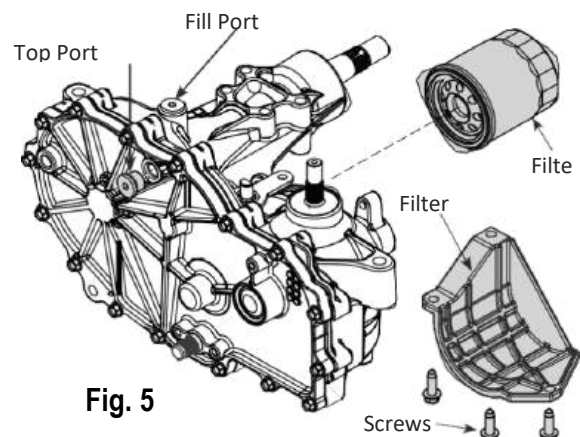

Fig. 5
8. Remove the top port plug (figure 5) from the left side and right side transaxles prior to filling with oil. This will allow the transaxles to vent during oil fill.
Note: For units that do not have an external expansion tank remove the fill port plug on the top of the housing (figure 5).
10. Fill with 20W50 motor oil until oil just appears at the bottom of each transaxle's top port (approximately 2 qts. per transaxle, 4 qts. total). Install the top port plug into each transaxle as the oil level reaches this port. See Figure 5.
Note: For units that do not have an external expansion tank replace the fill port plug on the top of the housing (figure 5), torque to 120 in. lbs. and proceed to the purge procedure.